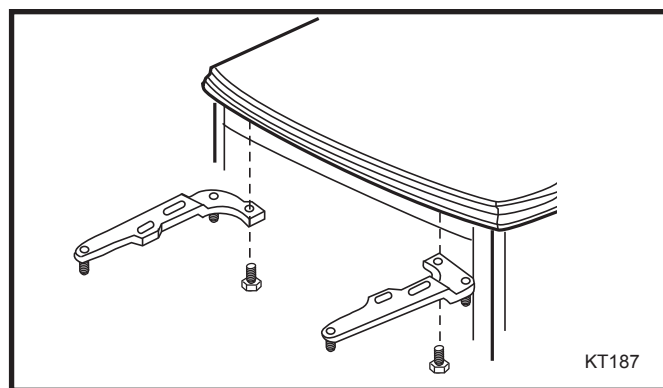

Fig. 2 Attach brackets to threaded holes in top plate.
2. Screw the flat brackets to the stove. Pass a 1/4"-20 x 1/2" hex-head cap screw up through each bracket and into the threaded hole in the stove's top plate. (Fig. 2) Tighten the screws enough to secure the brackets, but keep them loose enough for the brackets to move slightly.